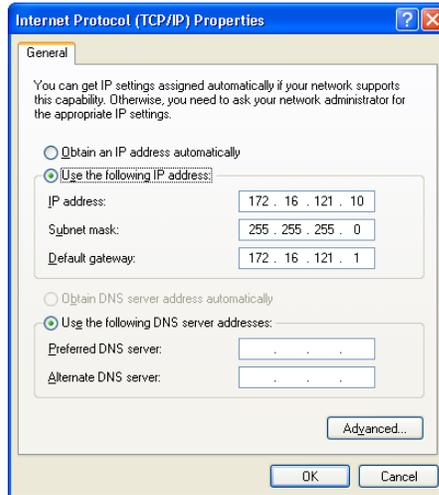

Figure 2. Manually Set PC network properties for connection to AutoRAE 2.
- Set the corresponding PC Ethernet port IP address, subnet mask, and default gateway manually as shown in Figure 2 for connection to AutoRAE 2.